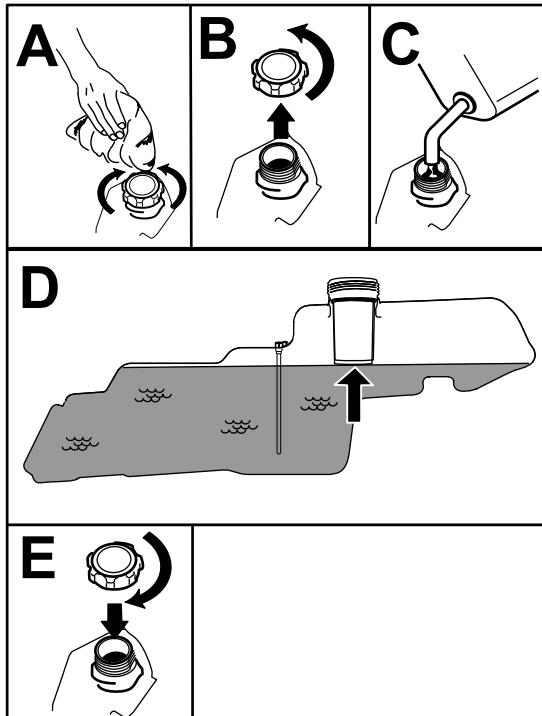

Figure 7
5. Fill the fuel tank to the bottom of the filler neck (Figure 7). Do not fill the fuel tank completely full.